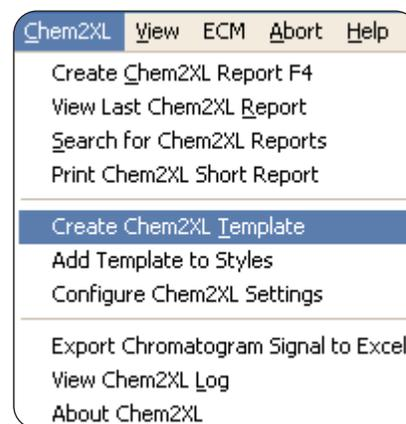

Figure 1
- From the ChemStation menu press the Chem2XL drop-down menu, select *Create Chem2XL Template* (figure 1).